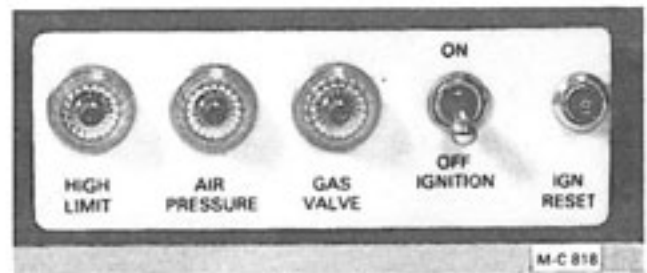

Figure 17
7. If after several attempts for ignition there is still no flame, push the 0.1 (1/10th) amp. ignition reset button (circuit breaker) on the control panel, see Figure 17. This circuit breaker protects the ignition board from heat build up due to repeated ignition attempts.